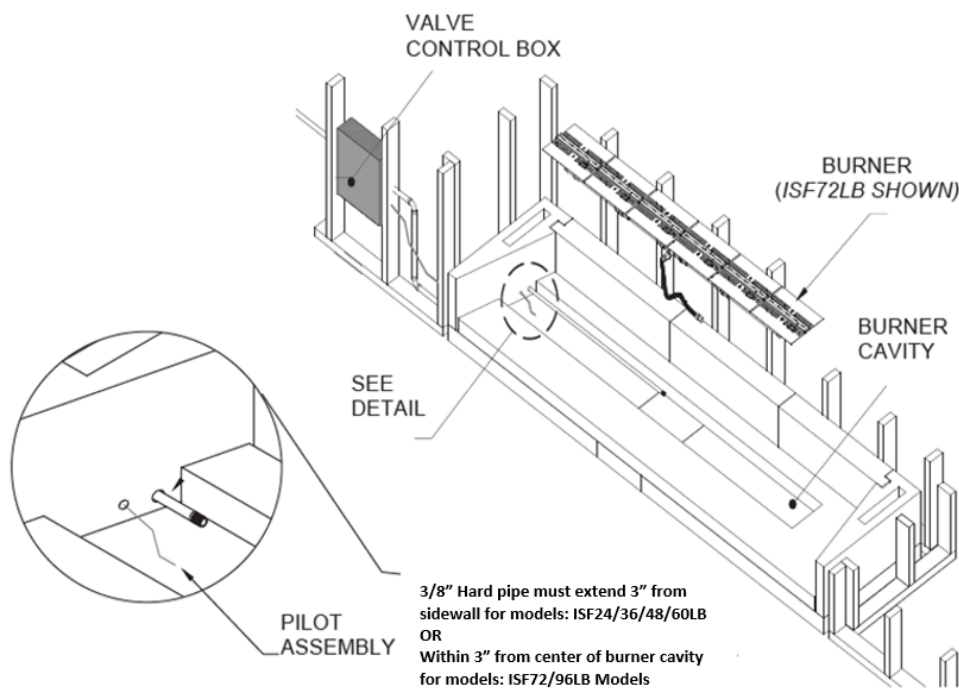

FIGURE 6
- For models ISF24/36/48/60LB: Gas supply shall terminate not less than 3" from sidewall. **Figure 6**
- For models ISF72/96LB: Gas supply shall terminate within than 3" from center of the cavity. **Figure 6**